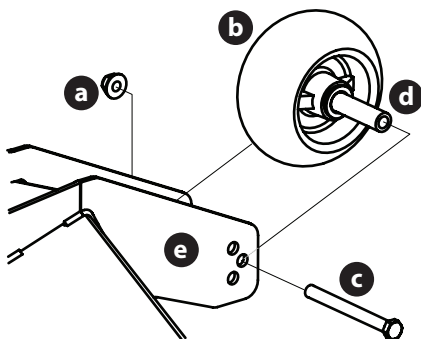

Figure 47
- Remove the lock nut (a) securing one of the front gauge wheels (b) to the deck. Remove the front gauge wheel (b), hex screw (c) and spacer (d) (Figure 47).
- Insert the hex screw (c) into one of the three index holes in the front gauge wheel bracket (e) that will give the front gauge wheel (b) a 1/4-1/2” clearance with the ground (Figure 47).
- Note the index hole of the just-adjusted front gauge wheel (b), and adjust the other front gauge wheel (b) into the respective index hole of the other front gauge wheel bracket (e) (Figure 47).